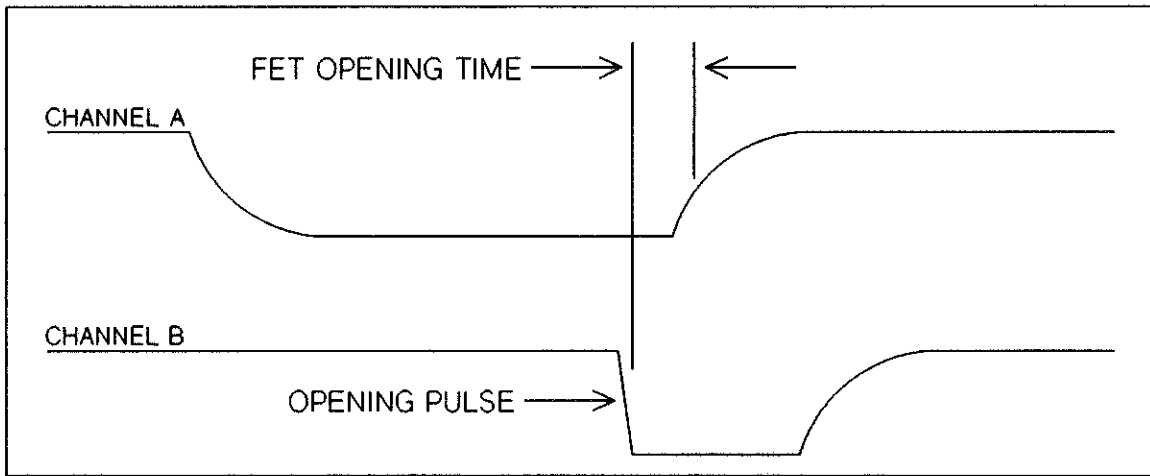

Figure 10-28 HP 44712A Opening Time
3. Rotate the DELAY SWEEP dial to the minimum position. Select the DELAYED sweep mode on the scope. Slowly rotate the DELAY SWEEP dial clockwise while observing the displayed waveforms. The Channel B waveform is the OPENING pulse. The Channel A waveform is the +5V supply as switched by the relays. As the DELAY SWEEP dial is rotated, each channel switch and the associated OPENING pulse will come into view. The FET opening time is the time from the falling edge of the OPENING pulse to the rising edge of the Channel A waveform. This time must be less than 1.2  $\mu$ seconds. The opening time is illustrated in Figure 10-28.